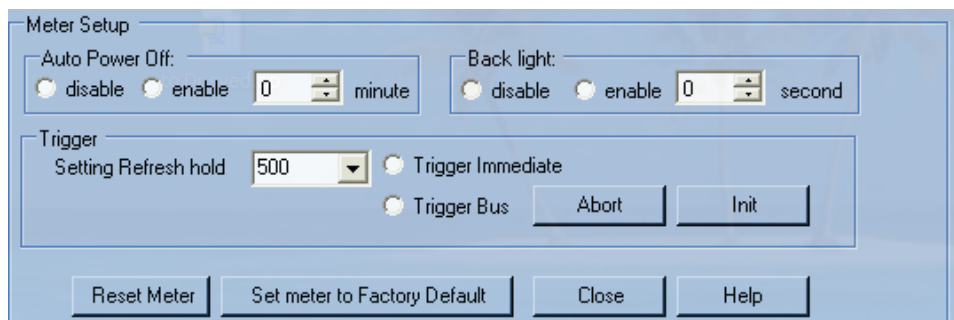

Figure 25 Meter setup
- ✓ **Meter Setup** (Figure 25) allows users to control the instrument with controlling options—auto power off function, backlight, triggering instrument.